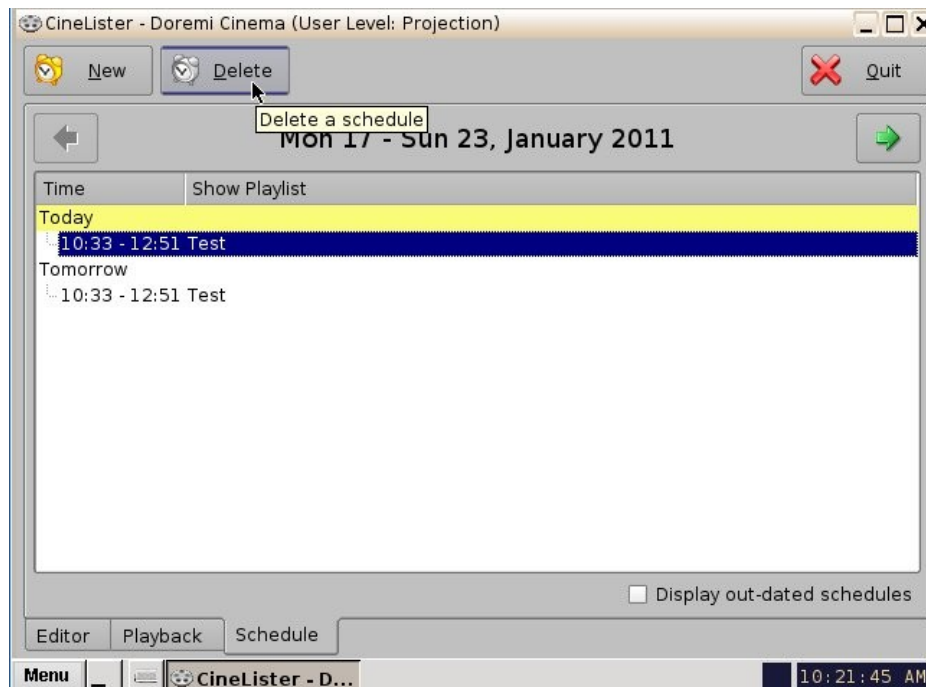

Figure 226: Schedule Tab - Scheduled Playlist Deletion
- Click on the SPL to remove it in the Schedule window (Figure 226).